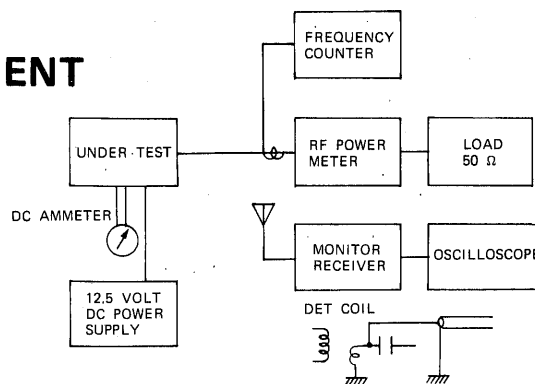

FIGURE 4
1. Connect the equipment as shown in Figure 4.